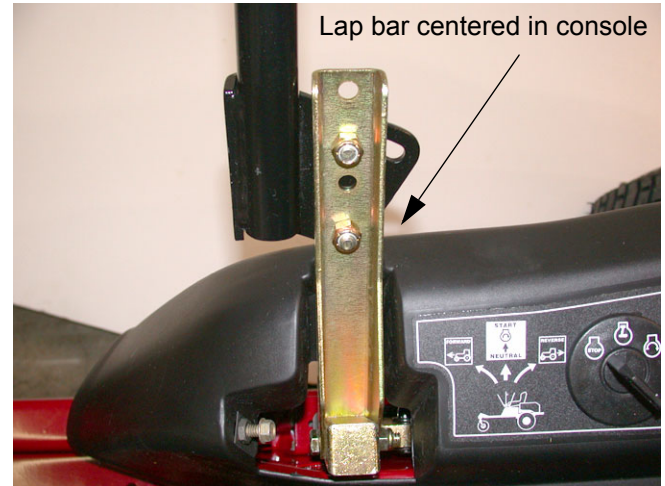

Figure 10.7
- 10.7. Align the post on the ferrule with the hole that it seats into on the neutral return assembly. Thread the ferrule up or down the length of the control rod to center the lap bar in the neutral recess in the control console. See Figure 10.7.